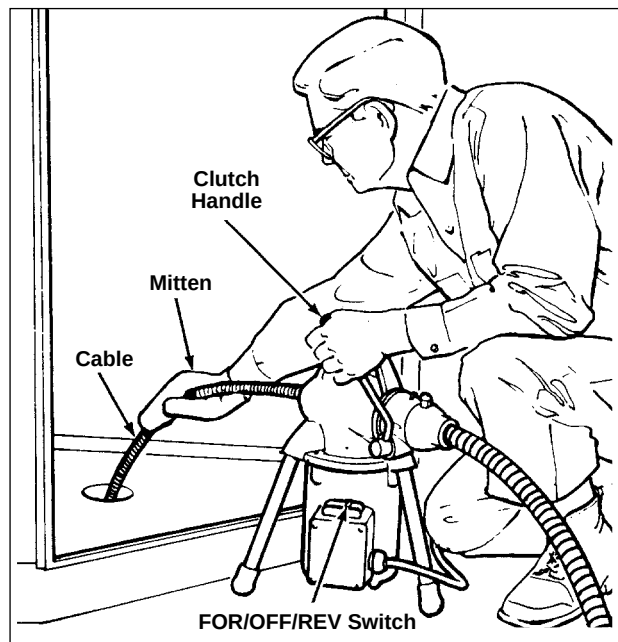

Figure 2 – Operating K-50 Drain Cleaning Machine.
2. To start through a "P" trap, push cable by hand as far as it will go. (Figure 2)